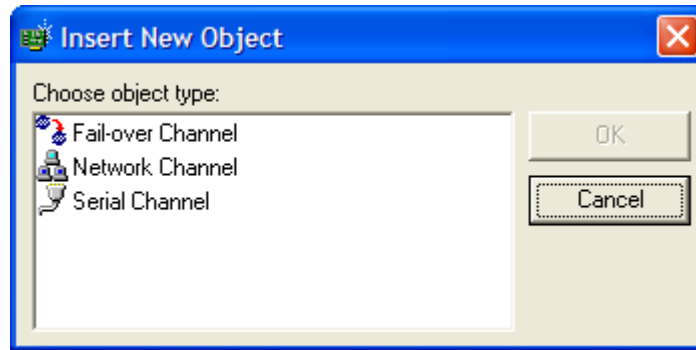

Figure 19 - Insert New Object Window
The **Insert New Object** window (Figure 19) displays a different set of options depending on the type of object selected and the types of objects already configured under it.
2. The **Insert New Object** window (Figure 19) appears.